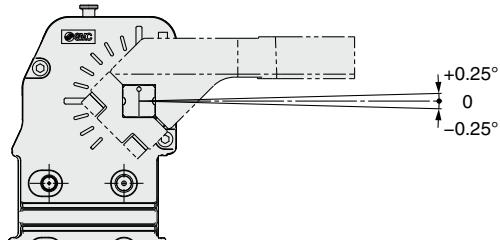

Figure 1
- 2) There is a mechanical difference of  $-0.25^{\circ}$  to  $+0.25^{\circ}$  at the clamping end as shown in Figure 1. Be sure to make adjustments externally using a shim. Refer to page 10.